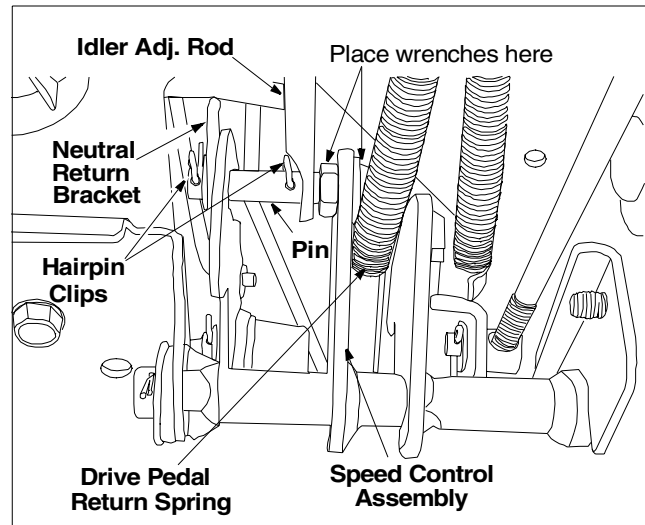

Figure 15
- Locate the speed control assembly on the underside of the steering support bracket. See Figure 15.
- Remove both hairpin clips from the pin which is fastened to the speed control assembly (be careful not to lose the small flat washers found on the pin). See Figure 15.
- Using two 9/16" wrenches, remove the pin from the speed control assembly. See Figure 15.